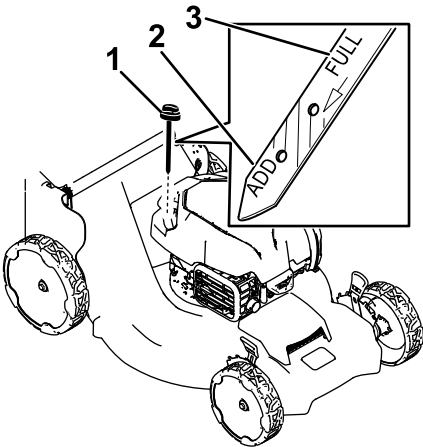

Figure 22
3. Remove the dipstick by rotating the cap counterclockwise and pulling it out (Figure 22).
4. Tip the machine onto its side (so that the air filter is up) to drain the used oil from the oil-fill tube (Figure 22).